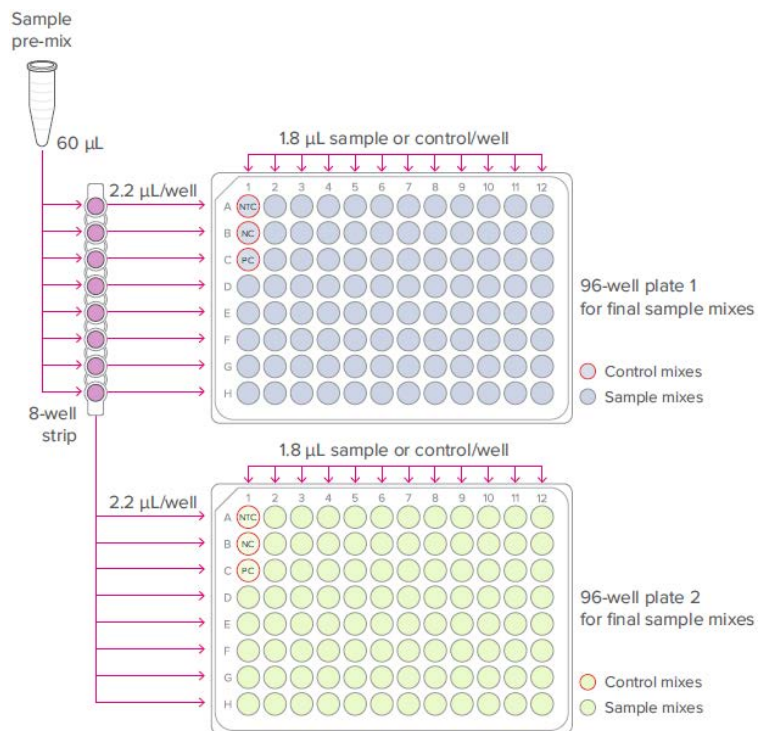

Figure 3. Final sample plates (per-well transfer volumes)
**3** Prepare the final sample mixes as shown in Figure 3.